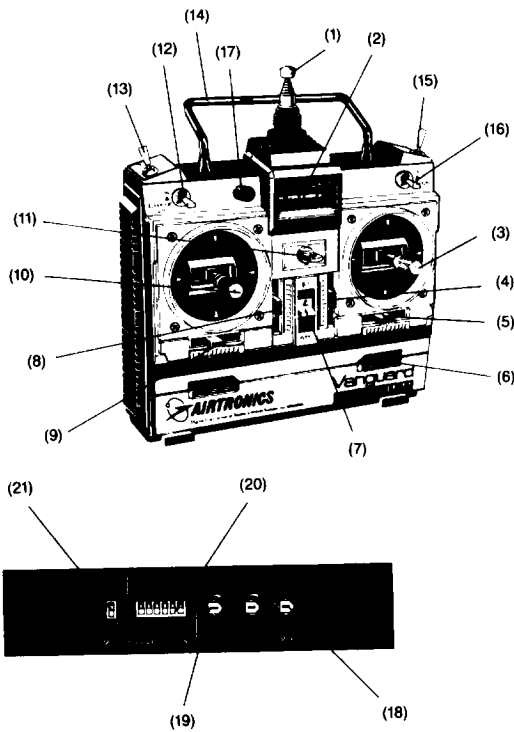

FIGURE 1
The VANGUARD PCM 6 Channel Transmitter is equipped with Dual Rate functions on ailerons (16) and elevator (12) channels (see Figure 1). The amount of normal control action